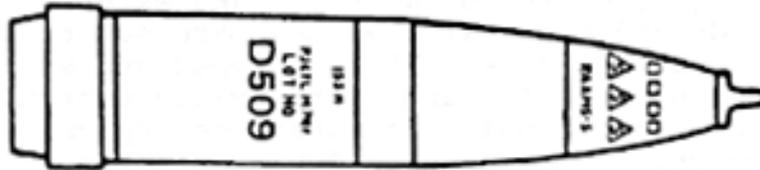

Figure 2-21. M741 (RAAMS) projectile
k. **Projectile, 155-mm, HE, RAAMS M718.** This projectile is used to deliver high-explosive antitank mines in front of enemy armored forces to deny or delay access to a particular area for a specific time period. This projectile is from the family of scatterable mines and is known as the remote antiarmor mine system (RAAMS). It is painted olive drab with yellow markings. The most significant markings are the row of yellow triangles, which contain the letter L, between the nose and the bourrelet and RAAM-L on the ogive, which indicates the long self-destruct time for the submunition (Figure 2-21). This is a base-ejection type projectile and uses the M577 MTSQ fuze.
1. Projectile, 155-mm, RAAMS, M741. This projectile is also known as a RAAMS projectile. It is exactly like the M718 above except the letter S painted in the yellow triangles and the RAAMS-S on the ogive are different to indicate a short selfdestruct time. This is a base-ejection type projectile and uses the M577 MTSQ fuze (Figure 2-21).